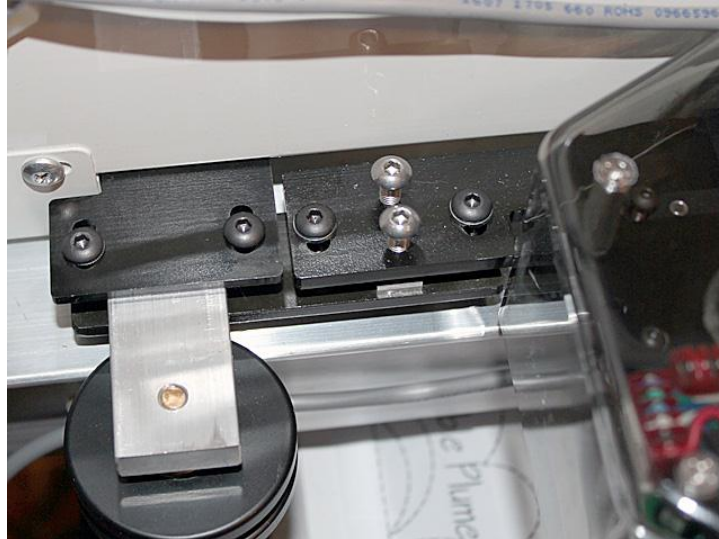

Fig. 7a
- Clamp the Y-motor bracket on the rear right wheel axle (viewed from the back), as Fig. 7a shows.